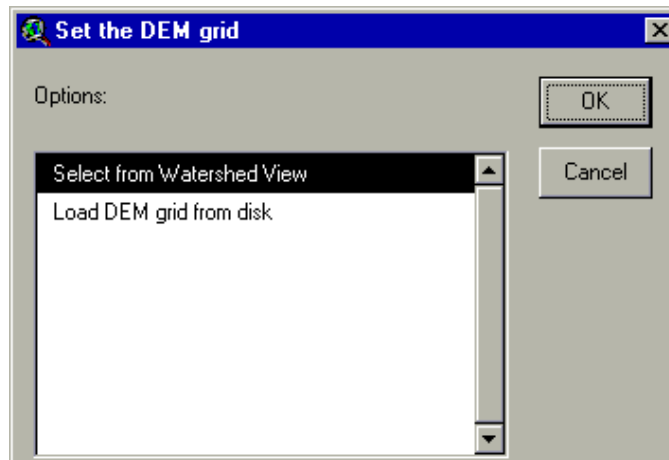

Figure 5.3
3. A dialog box is opened to specify which DEM map grid to use (Figure 5.3).